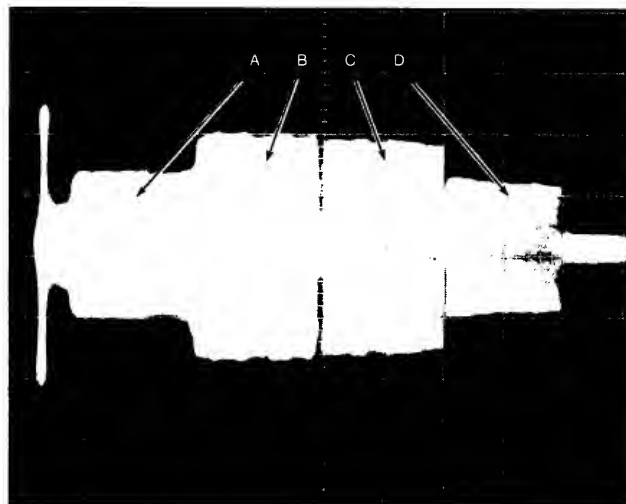

Figure 4-6. Head Azimuth Waveform
- g. Observe the waveform at TP4 should look similar to that of Figure 4-6. Examine the waveform for heads 1 and 2. If lobe A is greater in amplitude than lobe B or if lobe D is greater in amplitude than lobe C, then the head azimuth is out of alignment.